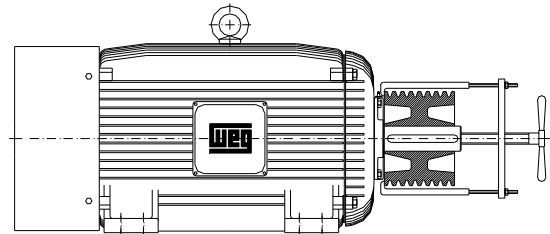

Figure 3.9. - Disassembly of pulleys.
**DISASSEMBLY OF PULLEYS:** for disassembly of pulleys it is recommended to use the devices shown in figure 3.9 in order not to damage the key neither shaft surface.